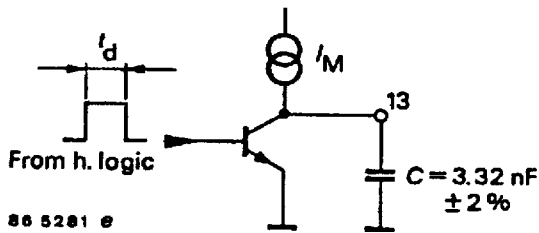

Figure 3.
H. ramp generator, see figure 3 Pin 13